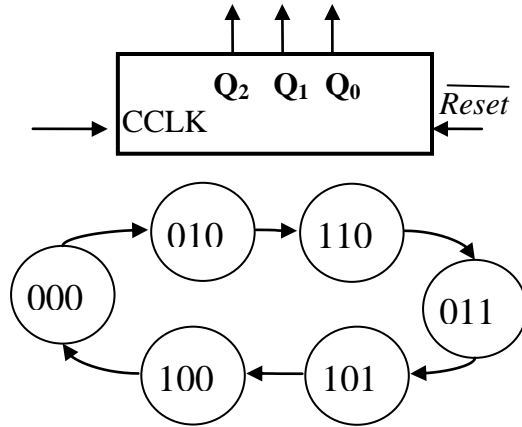

Fig. 1. (a) Block diagram and
- a. A **3 bit synchronous modulo 6 counter** - block diagram in Fig. 1.(a), has to observe the following counting sequence: 000 --> 010 --> 110 --> 011 --> 101 --> 100 --> 000. This counter is to be implemented with JK flip-flops which have active-low asynchronous *Reset* inputs ($\overline{\text{CLR}}\text{N}$); the flip-flops' clock inputs (CLK) are connected all together to CCLK (counter clock).
1. Draw the circuit diagrams using the graphics editor of Quartus in a schematic file and save the corresponding .bdf file. Use the counter's signal names suggested in the block diagram (Fig. 1. a) when editing the names of the pins of your circuit. In the **Project Navigator** pane select the **Files** tab; right-click on your *schematic file* (.bdf) and select **Set as Top Level Entity**. Also save the schematics as a **jpeg** file or print it for inclusion in your report.